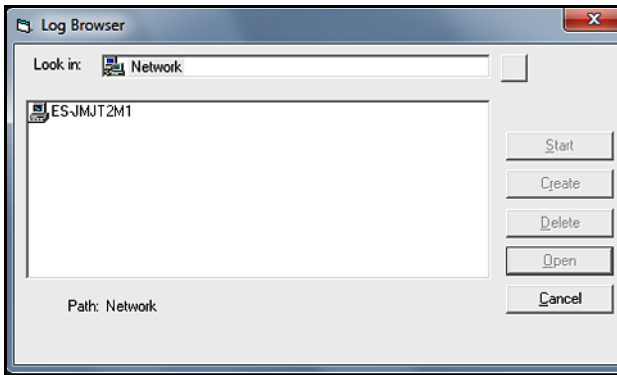

Figure 62: Computer Selection
1. Open the “*Output*” menu (see *Figure 51 on page 72*), and click on “*Logging*” and then on the “*Log Browser*” option to open the dialog box shown in *Figure 62* below.